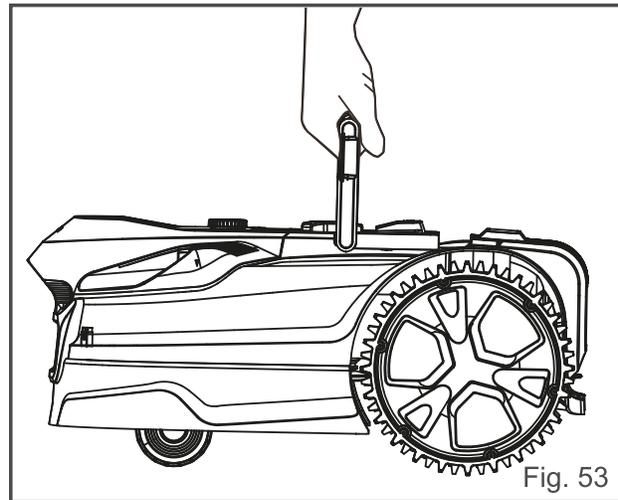

Fig. 53
## Storing the Mower (See Fig. 53)
- Use the carry handle to carry the mower. Carry the mower with the blade disc away from the body (Fig. 53).